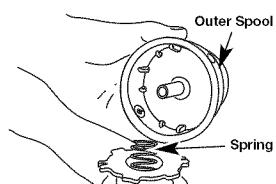

Fig. 12
2. Remove the inner reel from the outer spool (Fig. 12).
3. Remove spring from the inner reel (Fig. 12).
outer spool (Fig. 12).
3. Remove the spring from the old inner reel (Fig. 12).